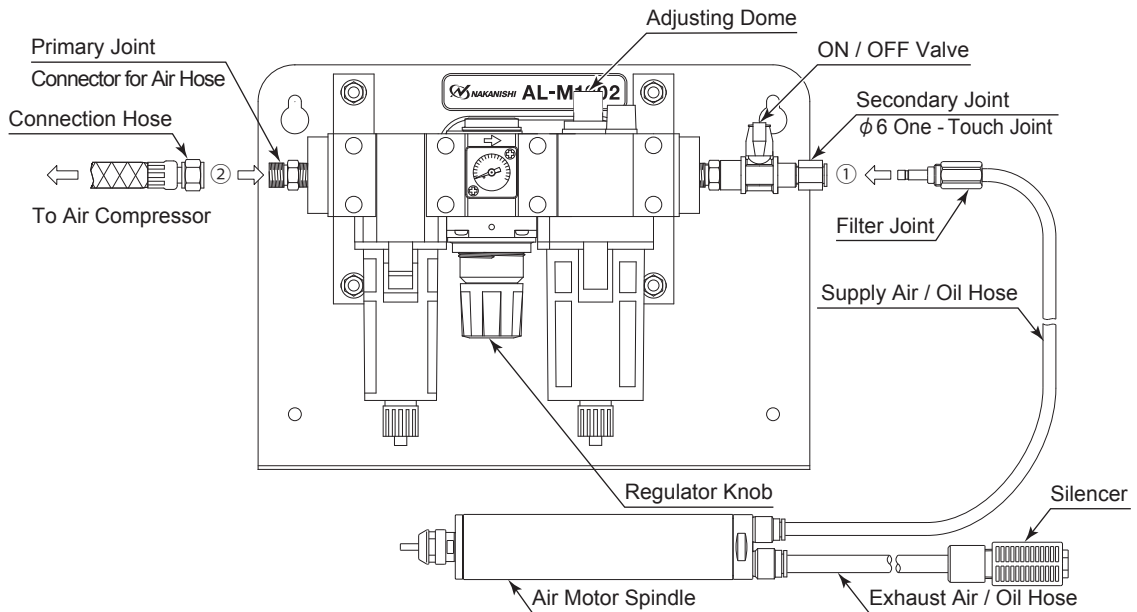

Fig. 16 Connection of Air Line Kit " AL - M1202 (Sold Separately) "
- ① Connect the Filter Joint of the supply air / oil hose to the Secondary Joint (  $\phi$  6 One - Touch Joint) of the Air Line Kit (Fig. 16 ①).
- ② Fill Oil Reservoir through the Oil Filler Cap with recommended NAKANISHI Lubricating Oil (K - 211 : Air Line Kit's Standard Accessories) to Upper Limit. Disconnect from air supply prior to opening Oil Filler Cap. Do not over or under fill.
- ③ Connect the connection hose (Air Line Kit's Standard Accessories) to the Primary Joint of the Air Line Kit and Compressor (Fig. 16 ②).
- ④ Supply air from the air compressor and turn the Regulator Knob to set air pressure between 0.3 - 0.5 MPa (43.5 - 72.5psi).
- ⑤ Turn the ON / OFF Valve and rotate the Air Motor Spindle with recommended proper air pressure. Adjust the Oil Drip Rate to the recommended volume which is 1 to 3 drops / min. (Commercially Air Line Kit is same Oil Drip Rate).